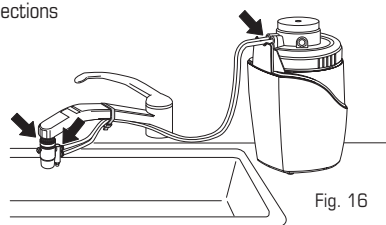

Fig. 16
8. **Check** for any signs of leakage at the Diverter and at all tubing connections (Fig. 16). If there is leaking or bubbling, refer to Troubleshooting, p. 7.